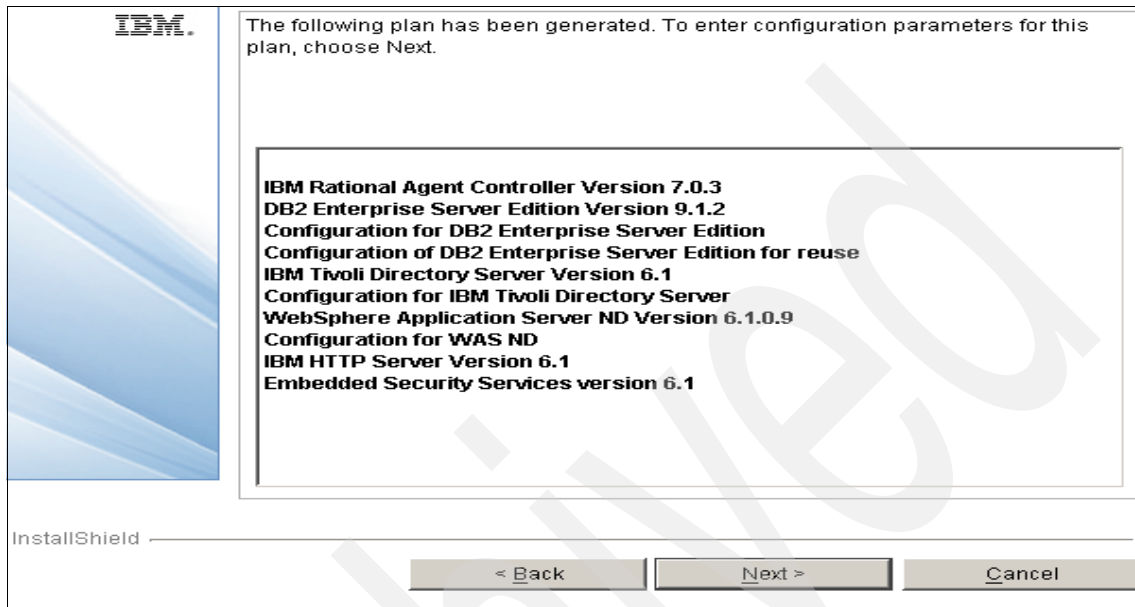

Figure 5-3 Deployment plan with directory services listed
- From the deployment plan summary window (see Figure 5-3), click **Next** to configure the parameters displayed. The deployment plan is generated, and you are provided details about the plan.